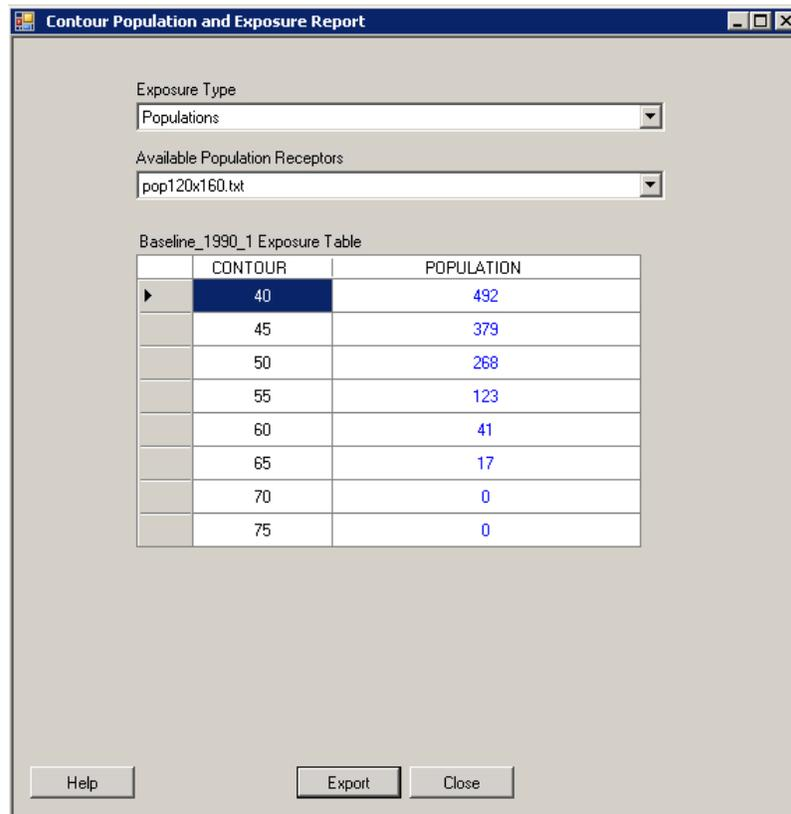

Figure 8-16 Contour Population and Exposure Report Dialog Box
1. In the *Tree Browser* right-click on the desired noise contour layer under the *Noise Contour* category, and select *Contour Report*. The *Contour Population and Exposure Report* dialog box will open (Figure 8-16).